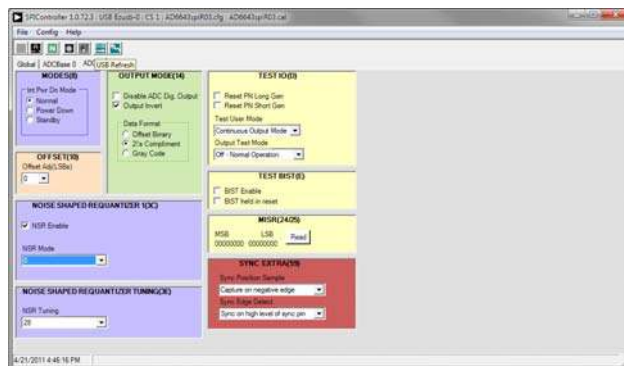

Figure 14. SPI Controller, Example ADC A Tab—NSR Settings for the AD6643
6. If using the noise shaping requantizer (NSR) feature of the AD6643, the settings in the ADC A and/or ADC B pages must be changed (see Figure 14). The **NSR Enable** checkbox must be selected under the **NOISE SHAPED REQUANTIZER 1(3C)** section. This enables the circuitry in the AD6643. To select the bandwidth mode, select 0 for 22% and 1 for 33% under the **NSR Mode** drop-down box in the **NOISE SHAPED REQUANTIZER 1(3C)** section. Upon selecting the bandwidth mode, select the desired tuning word in the **NSR Tuning** drop-down box under the **NOISE SHAPED REQUANTIZER TUNING(3E)** section.